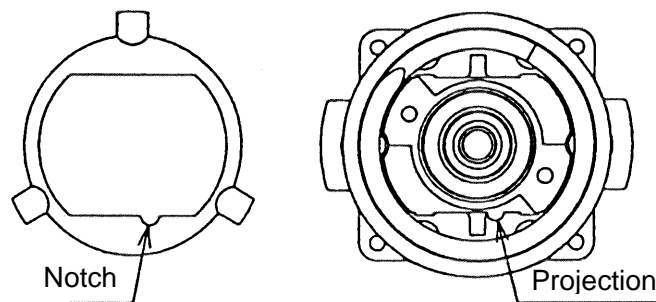

Fig. 8
(2) Reassembly of the clutch unit
- (i) When installing the Clutch Plate [7] into the Front Case [11], align the projection on the Front Case [11] with the notch of the Clutch Plate [7]. (See Fig.8.)